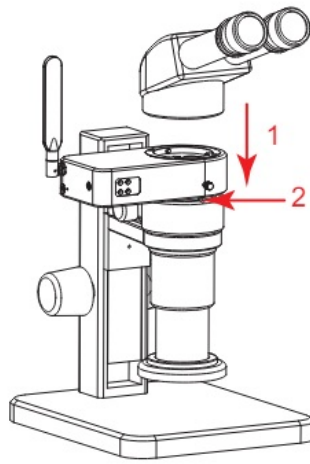

Figure 2
- 1) Snap the smart embedded camera to the objective end of the microscope, oriented as in Figure 2;